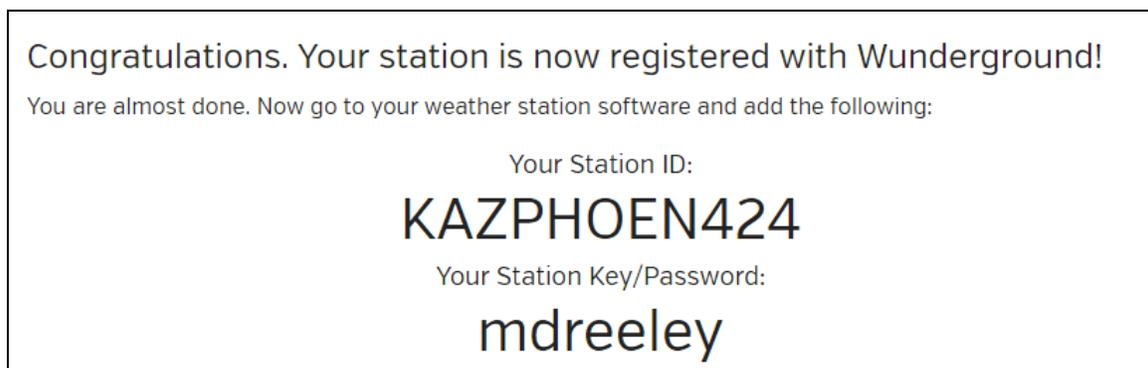

Figure 38
3. Once registered, you receive a station ID and password. Make a note of this. You will need to enter it into your weather station tablet, as shown in Figure 36 (Figure 38 is an example and your station ID and password will be different).